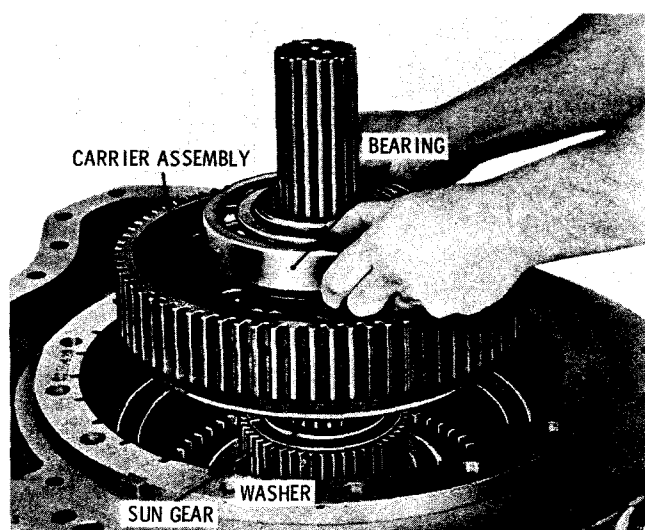

Fig. 7-28. Installing reverse-range planetary carrier assembly
(1) Install the bronze thrust washer onto the reverse-range sun gear. Install the reverse-range planetary carrier assembly and bearing onto the reverse-range sun gear (fig. 7-28).